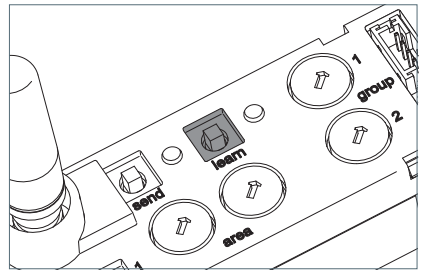

Fig. 19: "learn" key
- ▶ Press the "learn" key and keep it depressed for 10 to 15 seconds until the "learn" LED starts flashing slowly, see Fig. 19.